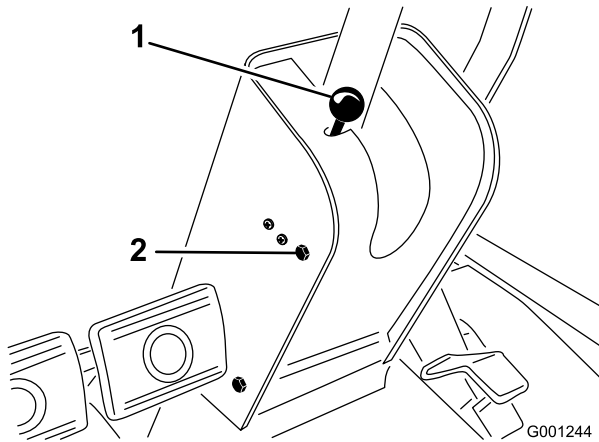

Figure 69
1. Remove the knob from the parking brake and the screws from the steering-column cover (Figure 69).